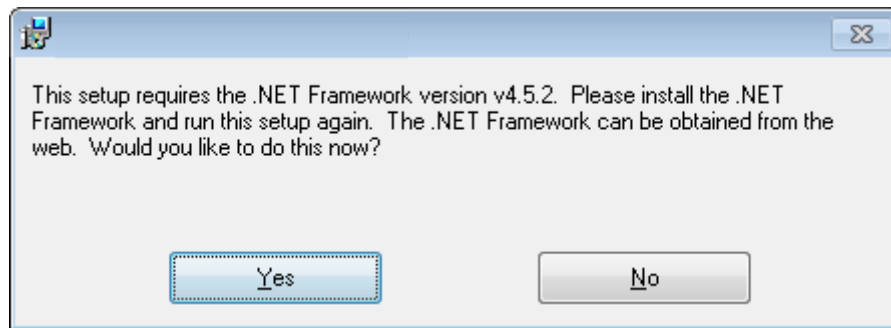
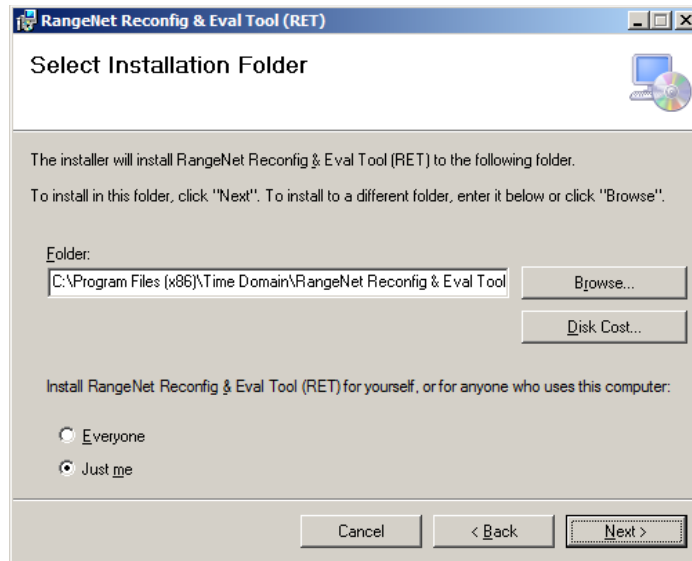
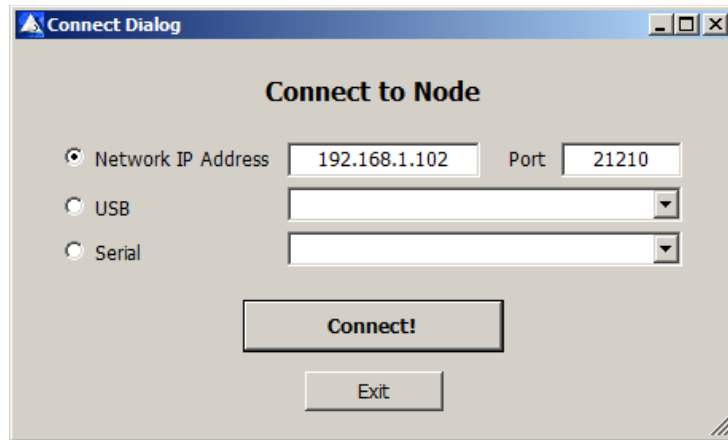

Fig. 1A: Message warning that you will need to download a newer version of .NET Framework
Fig. 1B: Initial installation screen for the RangeNet RET software
Fig. 7: RangeNet RET connect screen prior to USB hookup
If a screen similar to the one shown in **Figure 1A** appears, then you will need to download a newer version of .NET Framework from the Microsoft website. See **Appendix A** for details. If not, then you should see the box shown in **Figure 1B**.
1. Double-click on the RangeNet RET icon. The screen shown below in **Figure 7** will appear. Depending on the version of your Windows OS, the screen shown in **Figure 1A** may appear instead. If it does, please follow the instructions in **Appendix A**.